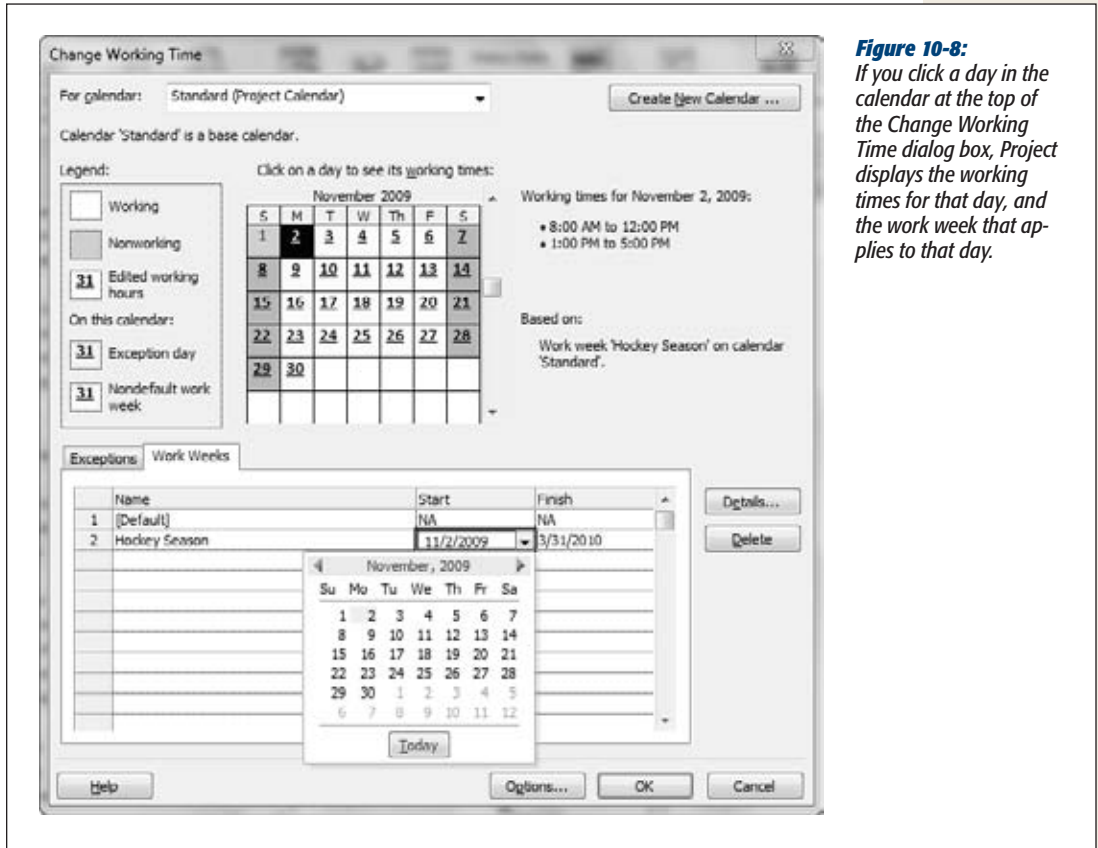

Figure 10-8:
3. **Click the Start cell in the same row, click the down arrow that appears in the cell, and then choose the first date to which the work week applies, as shown in Figure 10-8. Click the Finish cell in the same row, and then choose the last date to which the work week applies.**